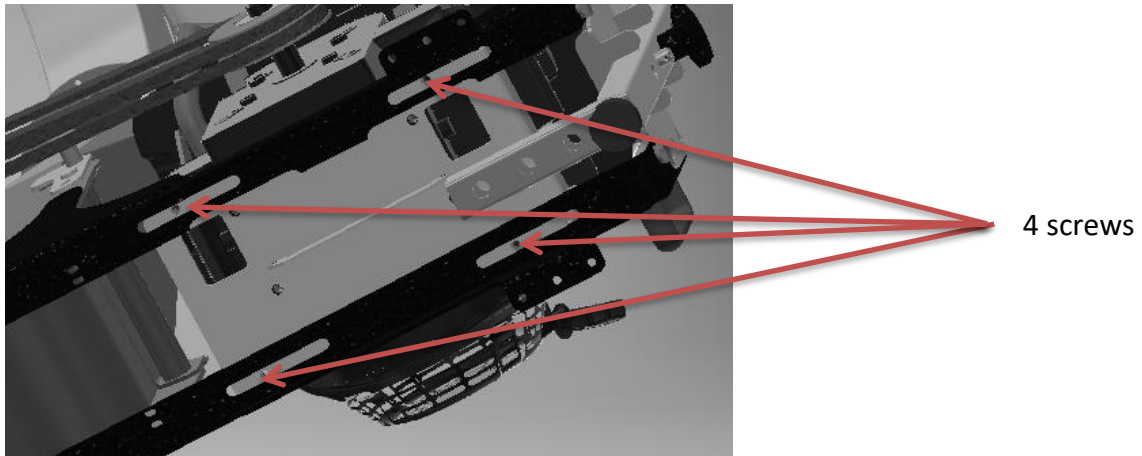

Figure 12
4. Retighten the 4 screws in the base. See figure 12.